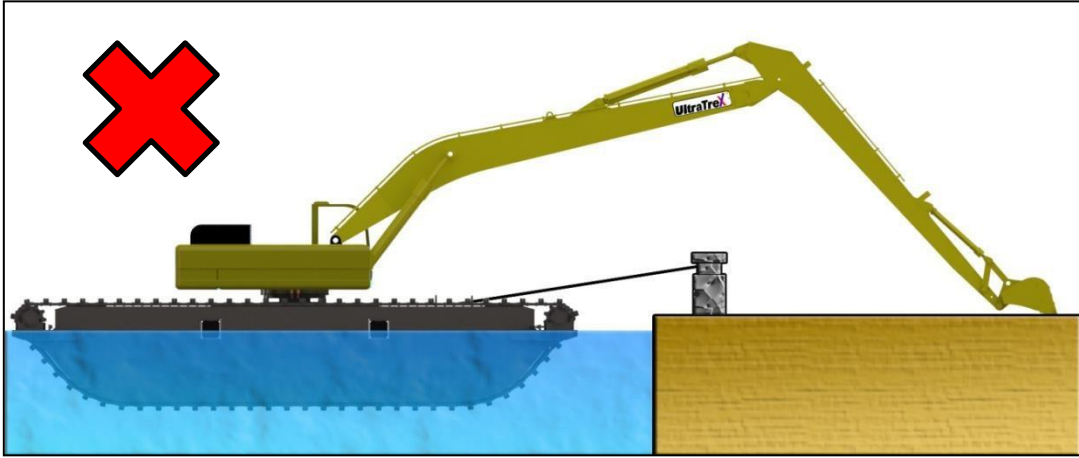

Figure 3.3: Avoid parking in the water
5. Avoid parking the amphibious excavator in the water. Refer to Figure 3.3.